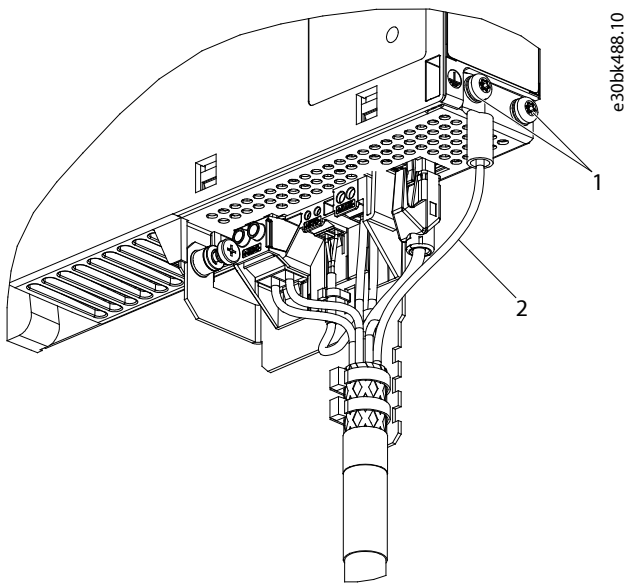

Figure 35: Connecting the PE Wire of the Feed-in Cable
2. Connect the PE yellow/green wire of the feed-in cable to 1 of the PE screws on the front of the DAM 510, as depicted in Figure 35
5. Connect the PE yellow/green wire of the feed-in cable to 1 of the PE screws on the front of the DAM 510, as depicted in Figure 35.
4. Connect the PE yellow/green wire of the feed-in cable to 1 of the PE screws on the front of the DAM 510 (see Figure 35).